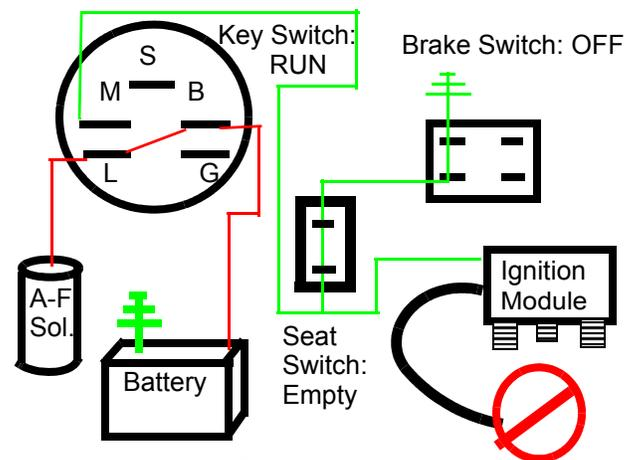

Figure 31.6
- 31.6. If the seat is empty (contacts closed) a ground path may be completed through the brake switch. See Figure 31.6.